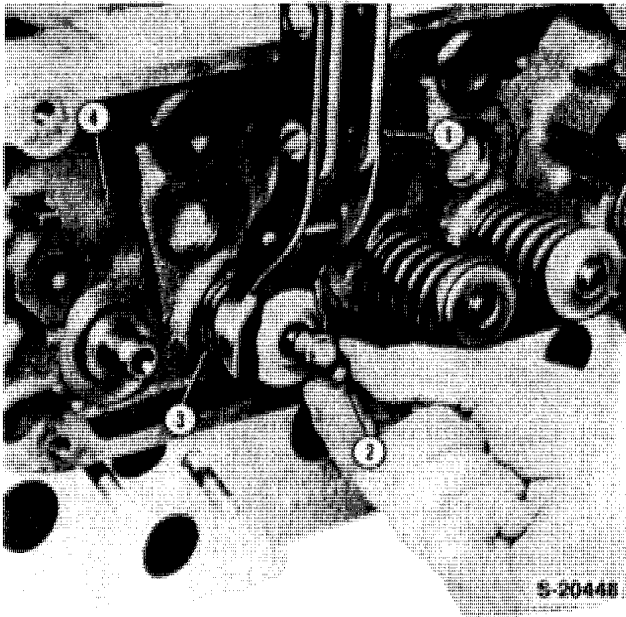
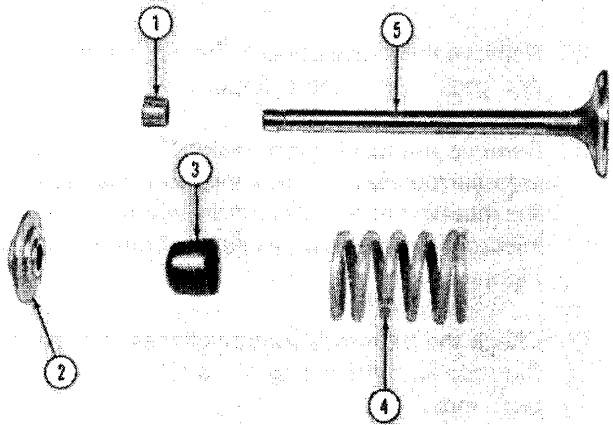

Figure 6
Figure 7
3. Using a valve spring compressor, Figure 6, remove the retainer locks, spring retainers/rotators, springs and seals from each valve, Figures 7 and 8.